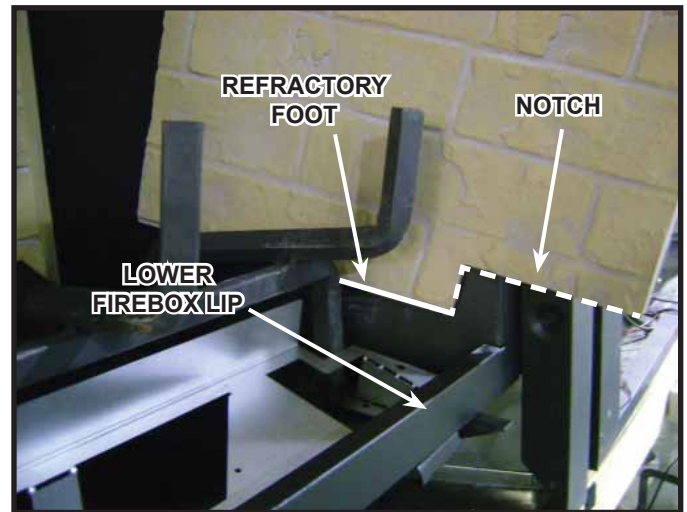
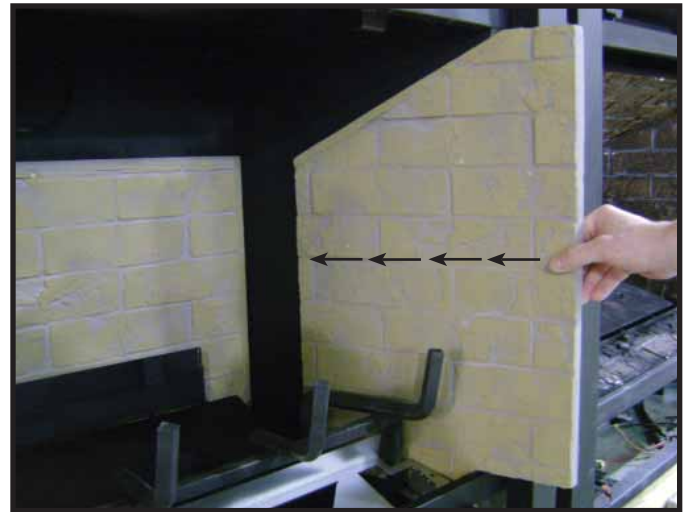
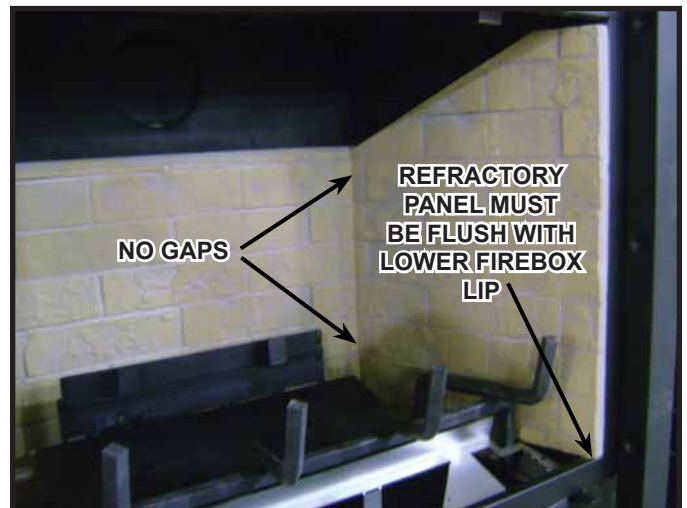
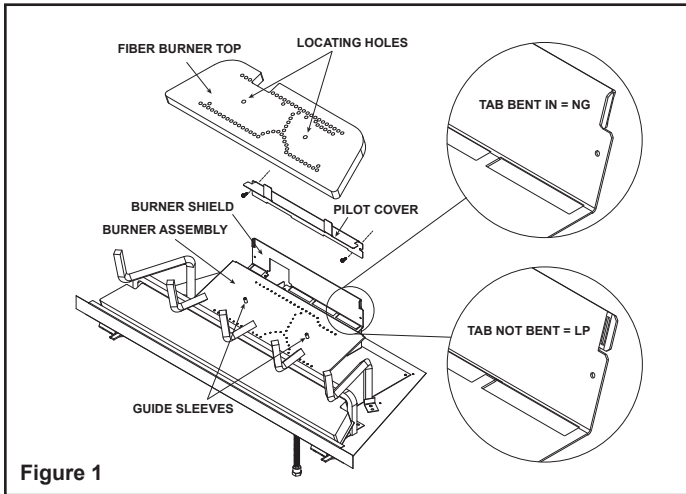

Figure 3
Figure 4
Figure 5
Figure 2. Firebox Shown with Optional Refractory
3. Place the right refractory panel against the right side-wall of the firebox. Rest the rectangular notch located on the bottom of the right refractory panel over the lower firebox lip. Let refractory foot rest on firebox after panel's notch has been mated with firebox lip. See Figure 3.
4. Slide the right refractory panel completely into the firebox until it securely rests against back refractory panel. Make sure that right refractory panel makes full contact with the right sidewall of the firebox. See Figure 4.
**CAUTION:** Logs are fragile, handle with care. **Log #1 (SRV2164-701):** Locate log placement tabs on the pilot cover. Bend tabs upward as shown in Figure 2. Locate the log placements slots on the bottom of Log #1 (see Figure 3). Mate the slots located on the bottom of Log #1 with the log placement tabs on the pilot cover. Log #1 is properly installed when it sits squarely and completely on pilot cover with tabs engaged (see Figure 4).
Figure 4 shows the log placement tabs located on the top of Log #1. The tabs will be mated with the slots located on the bottom of Log #2 and Log #3 (see Figure 5). Log #2 and Log #3 also have grooves that allow the logs to be seated properly on the grate (see Figure 5). Hold Log #1 upright while placing Log #2.
**Log #4 (SRV2164-704):** Place Log #4 in the left log indentation on the burner top (see Figure 2). Slide Log # 4 from right to left under Log #2 to fit completely and securely into the indentation (see Figure 8). Nose of log #4 should be pulled to fit securely against right hand side of log indentation.
**Log #5 (SRV2164-705):** Place Log #5 in the right log indentation on the burner top (see Figure 2). Ensure the log fits completely and securely in the recessed indentation (see Figure 9). Log #5 should be pulled to the left hand side of log indentation.
**CAUTION: LOGS ARE FRAGILE, HANDLE WITH CARE.** **Log #1 (SRV2168-701):** Locate log placement tabs on the pilot cover. Bend tabs upward as shown in Figure 2. Locate the log placements slots on the bottom of Log #1 (see Figure 3). Mate the slots located on the bottom of Log #1 with the log placement tabs on the pilot cover. Log #1 is properly installed when it sits squarely and completely on pilot cover with tabs engaged. See Figure 4.
**Log #4 (SRV2168-704):** Place Log #4 in the left log indentation on the burner top (see Figure 2). Slide Log #4 from right to left under Log #2 to fit completely and securely into the indentation (see Figure 8). The back of Log #4 should rest against the far left grate tine as well as contact Log #2.
**Log #5 (SRV2168-705):** Place Log #5 in the right log indentation on the burner top (see Figure 2). Ensure the log fits completely and securely in the indentation (see Figure 9). Log #5 should be pulled to the left hand side of log indentation.